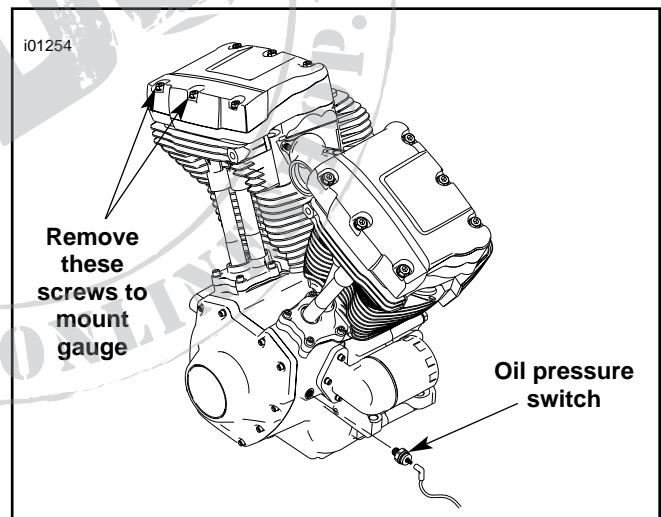

Figure 2.
- See Figure 2. Remove oil pressure switch from crankcase and save switch for reassembly. It may be necessary to use a 15/16 inch open end crow foot (Snap-On FC30B) to remove the oil pressure switch. Remove the two rear right hand side rocker box screws identified with arrows. Place mounting bracket of oil pressure gauge assembly over